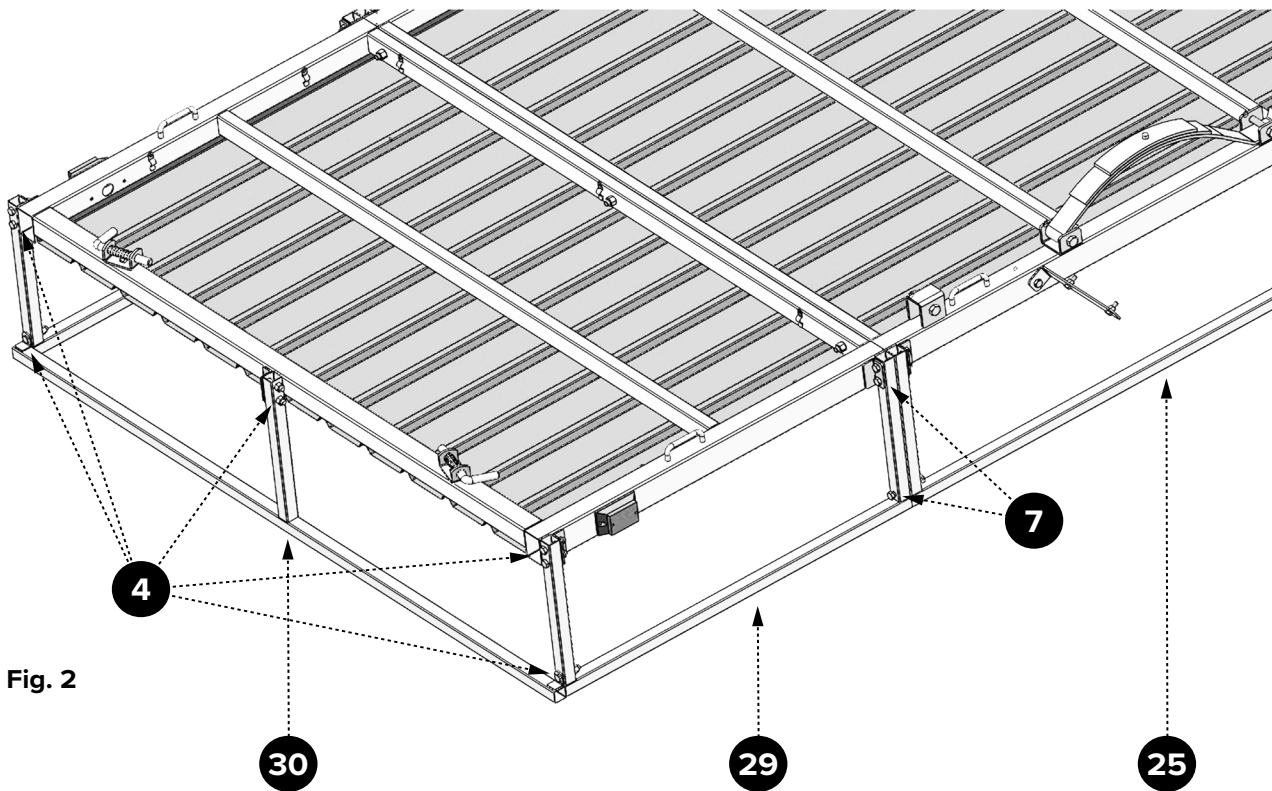

Fig. 2
1. Place rails (25, 29, 30) as shown (Fig. 2), use the M10 x 85 (7) bolts and nuts provided for the double rail connections.
2. Use the M10 x 50 (4) bolts and nuts to connect the rest of the upright rails.
3. Tighten the M12 x 80 (27) bed nuts from Step 1.